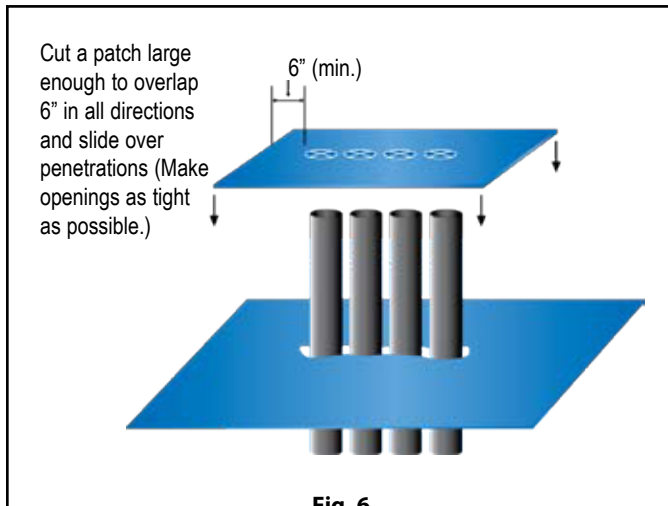

Fig. 6
- A) Cut a patch large enough to overlap 6" in all directions (Fig. 6) of penetrations.